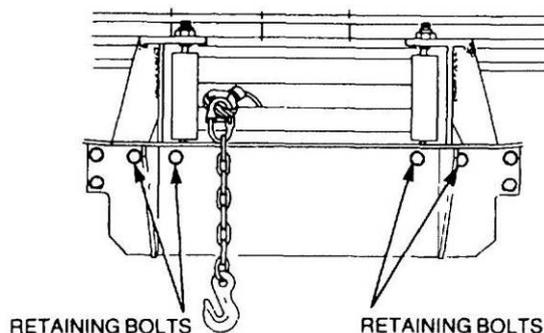

Figure 168 Removal of the Fairlead Frame to Winch Housing
- e. Remove the four bolts securing the fairlead frame to the winch housing and remove the frame (Figure 168). Feed the winch rope and chain through the fairlead rollers.